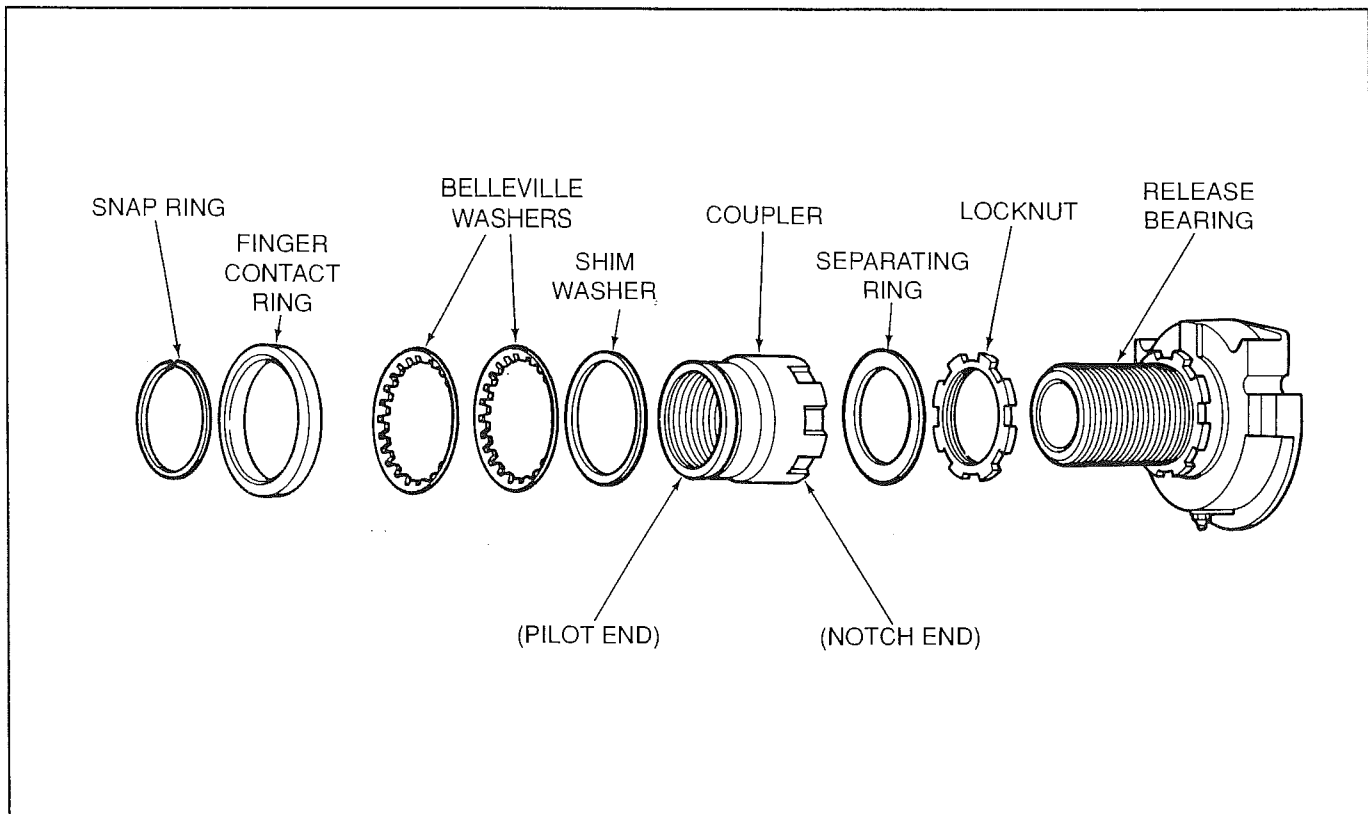

Figure 10-2. Clutch Release Bearing Assembly Disassembled
11. Thread the adjustment locknut on the release bearing barrel (Fig. 10-2).